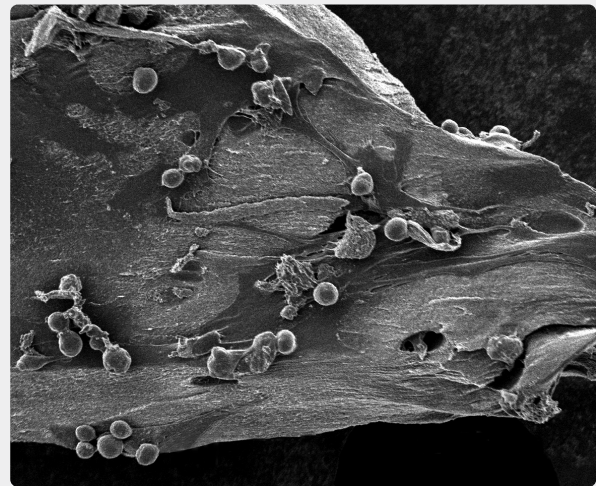

Figure 3
- › The small particle size also increases the surface area, providing attachment sites for the patient's bone marrow cells^{1,2} (Figures 3 and 4 depict the ability of progenitor cells to attach to BioCartilage ECM).